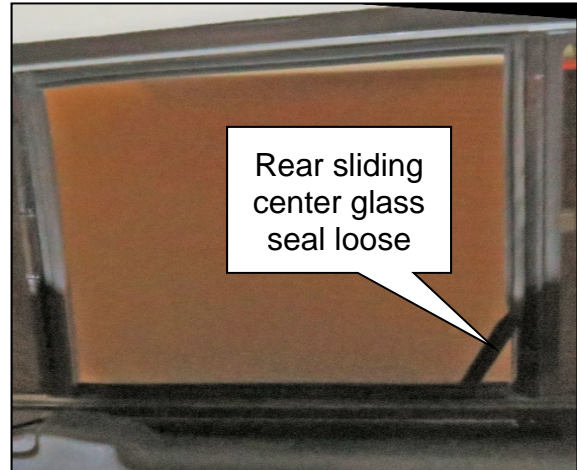

Figure 8
4. Remove any rear sliding center glass seal that is loose by pulling them off (Figure 8).